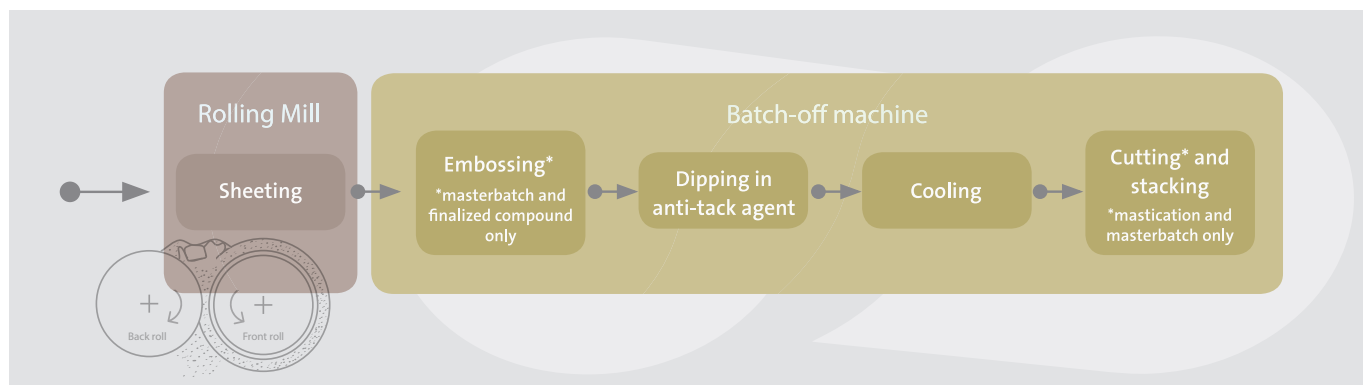

Figure 4: Mixing process – Rolling mill and batch-off machine
**in-house mastication (as done at SFT), which provides additional opportunities for quality management and in-batch as well as batch-to-batch uniformity.** Mastication is usually done with internal mixers (for further information on mixers, see following section about mixing equipment). When using an internal mixer, the natural rubber enters the mixing chamber through the hopper door in block form and is processed by the two heavy steel rotor paddles of the mixer. The masticated rubber is discharged and directly dropped onto a rolling mill, where it is sheeted for further processability (see figure 4). All steps from masticating to finalization are monitored and documented precisely.
After each mixing operation (mastication, masterbatch production and finalization), the rubber is prepared for the next production stage by being sheeted on a rolling mill. **The rubber that is dropped into the gap between the milling rolls is once again mixed by the counter rotating rolls and high shear forces.** The rubber then wraps around the front roll and is transformed into a sheet by the two milling rolls. Next to the rolling mill the batch-off machine is placed. It executes four main steps with a rotary cutter at the end of the line (see figure 4). First, the rubber sheets are embossed with the compound code (masterbatch and finalized compound only) and immersed into a container filled with a diluted anti-tack agent which prevents the uncured rubber sheets from sticking together. The rubber sheets are then transferred to a cooling chamber which quickly decreases their temperature and also helps to dry the anti-tack agent. Finally, the rubber is transferred to the rotary cutter where the sheets are cut into the desired length. The finalized rubber remains uncut and is folded in one piece, in order to improve processability for the following manufacturing process.